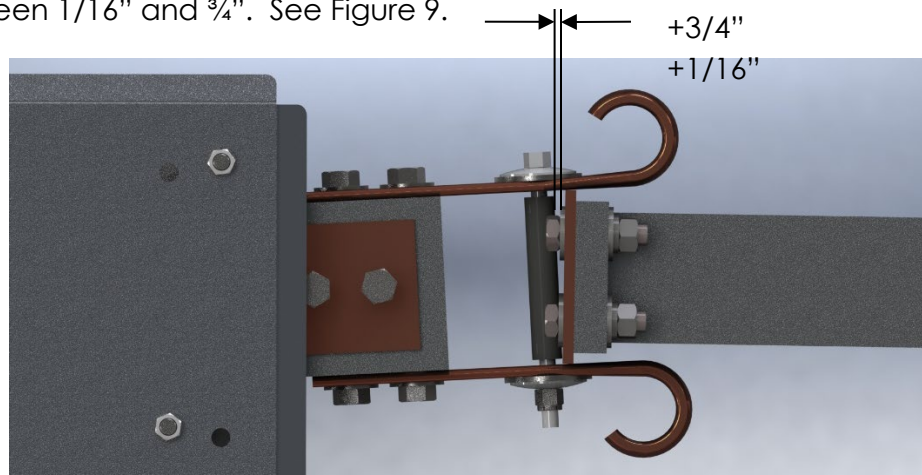

Figure 9: Male Blade Tip Depth
- 3) Measure the gap between the blade tip and the blade stop. The gap should be between  $1/16"$  and  $3/4"$ . See Figure 9.